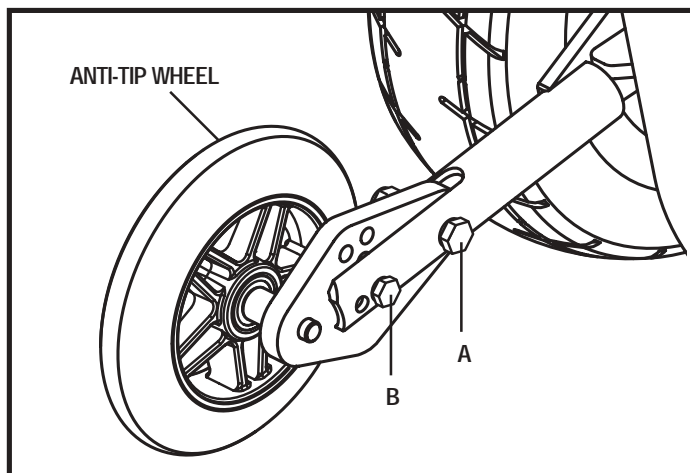

Figure 21. Anti-Tip Wheel Assembly
1. Loosen bolt A. See figure 21.